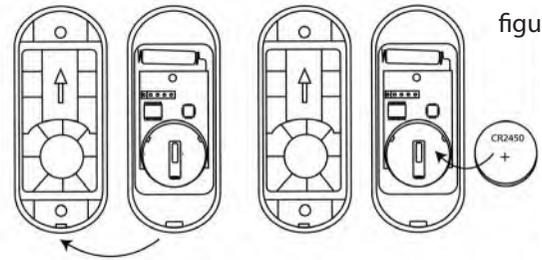

figure 2
3. Remove the top part of the case from the lower part of the case (figure 2).
4. Install the CR2450A 3V battery into the battery holder with the positive (+) side of the battery facing up (figure 2).